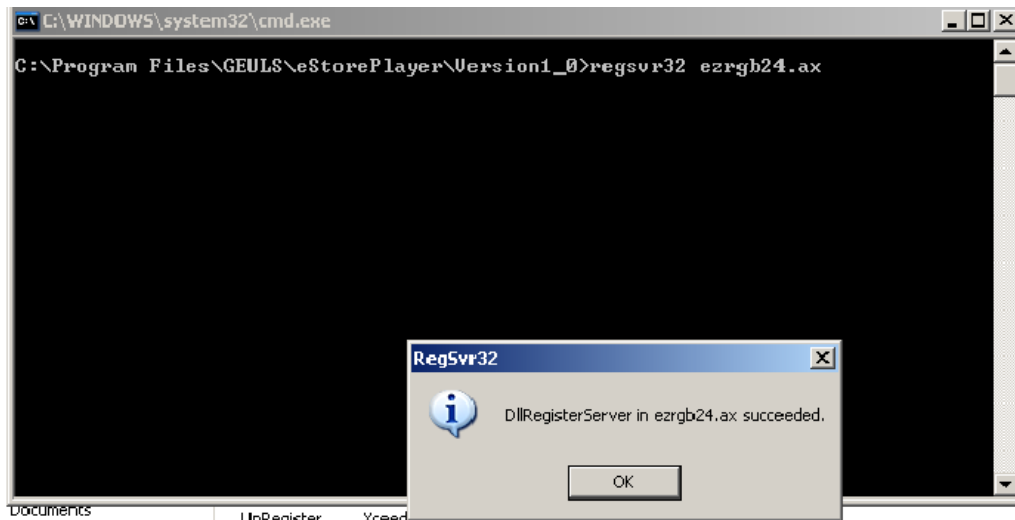
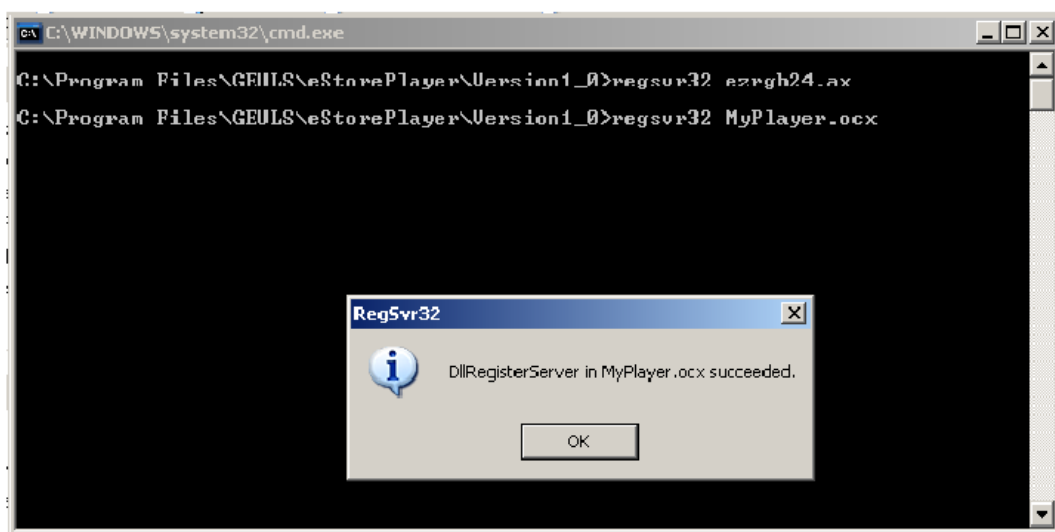

Figure 3-158 Uninstall Message 1
Figure 3-159 Uninstall Message 2
- 4.) If two messages are displayed one after another (shown in Figure 3-158 and Figure 3-159), click the **OK** button on each of them to close the message.